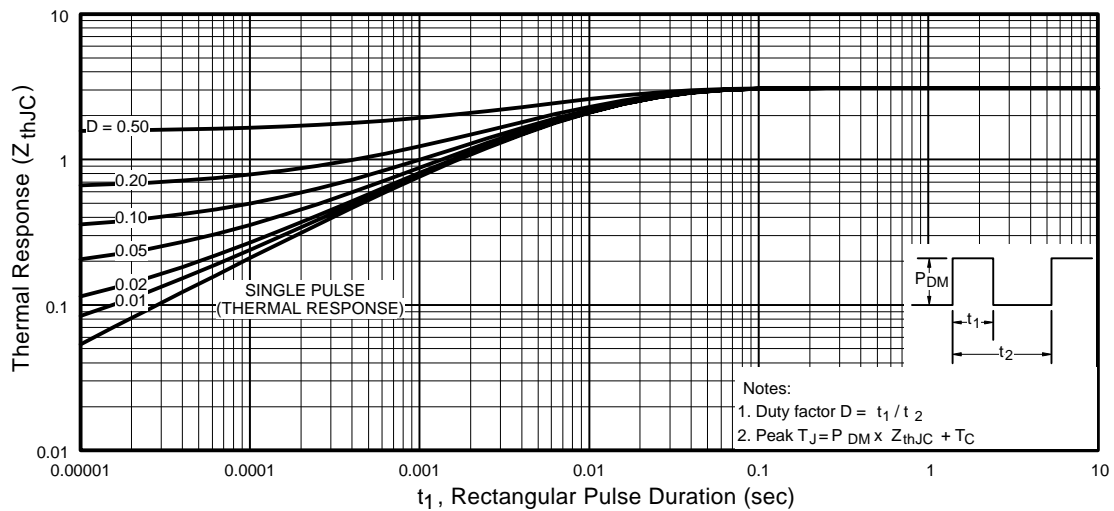

Fig 11. Maximum Effective Transient Thermal Impedance, Junction-to-Case
① Repetitive rating; pulse width limited by max. junction temperature. (See fig. 11)
② Starting $T_J = 25^\circ\text{C}$, $L = 13mH$